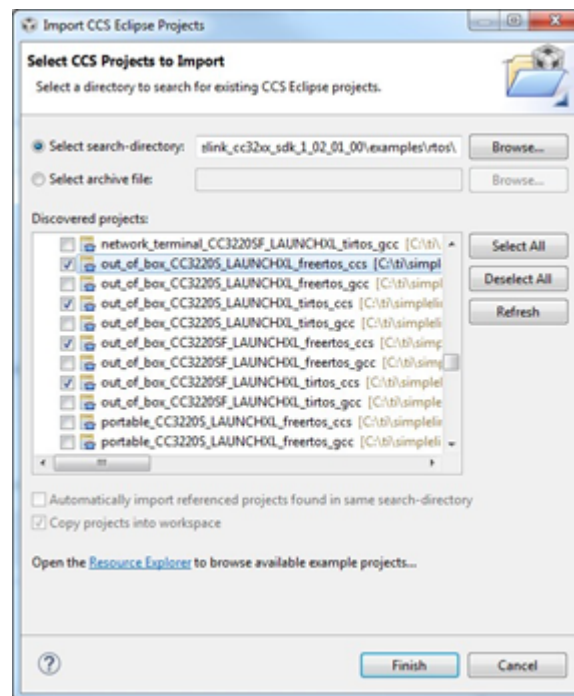

Figure 36. Import OOB Project
3. Import the OOB project using CCS IDE from the following location, according to the connected CC3220 device and the desired OS (freertos or tirtos, see Figure 36).